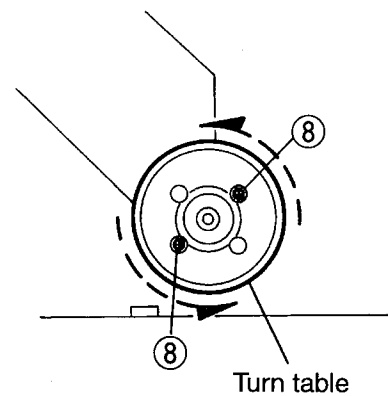

Fig.25
2. While turning the turn table, remove the two screws ⑧ retaining the spindle motor and take out the spindle motor (See Fig.25).